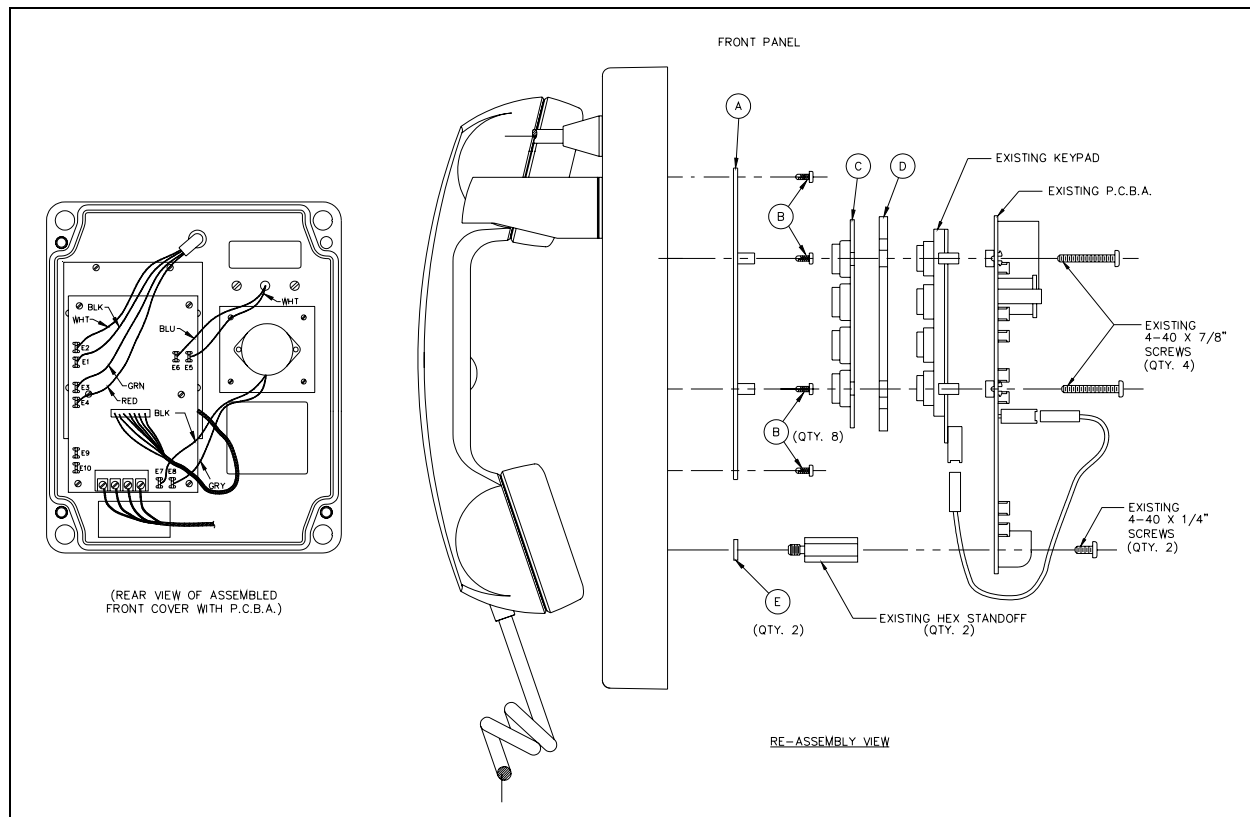

Figure 2. Reassembly View
1. See Figure 2. Install supplied keypad mounting panel (A) with eight supplied PPHTF #4 × ¼-inch screws (B) as shown in Figure 2. Make sure that screws are uniformly tightened in a crisscross pattern to ensure even pressure with the phone front panel gasket.
2. Press keypad seal (C) into the keypad mounting panel grid (A). Make sure that keypad seal numbers are in the correct orientation with the phone front panel. Verify that each key position of the seal is seated completely in each grid square and around the standoffs on the keypad mounting plate.
3. Place keypad spacer plate (D) over the keypad seal and standoffs on the keypad mounting panel.
4. Unscrew the two ¼-inch hex standoffs mounted to the phone front panel. Place one nylon washer (E) under each standoff and screw the standoffs back into position on the phone front panel.
6. Carefully flip PCBA back over and into place lining up the four long mounting screws through the mounting holes in the keypad and into the keypad mounting bracket (A). Make sure all four screws are engaged before tightening. Once they are all engaged tighten in a crisscross pattern to ensure even pressure with the keypad spacer plate (D) and keypad seal (C).